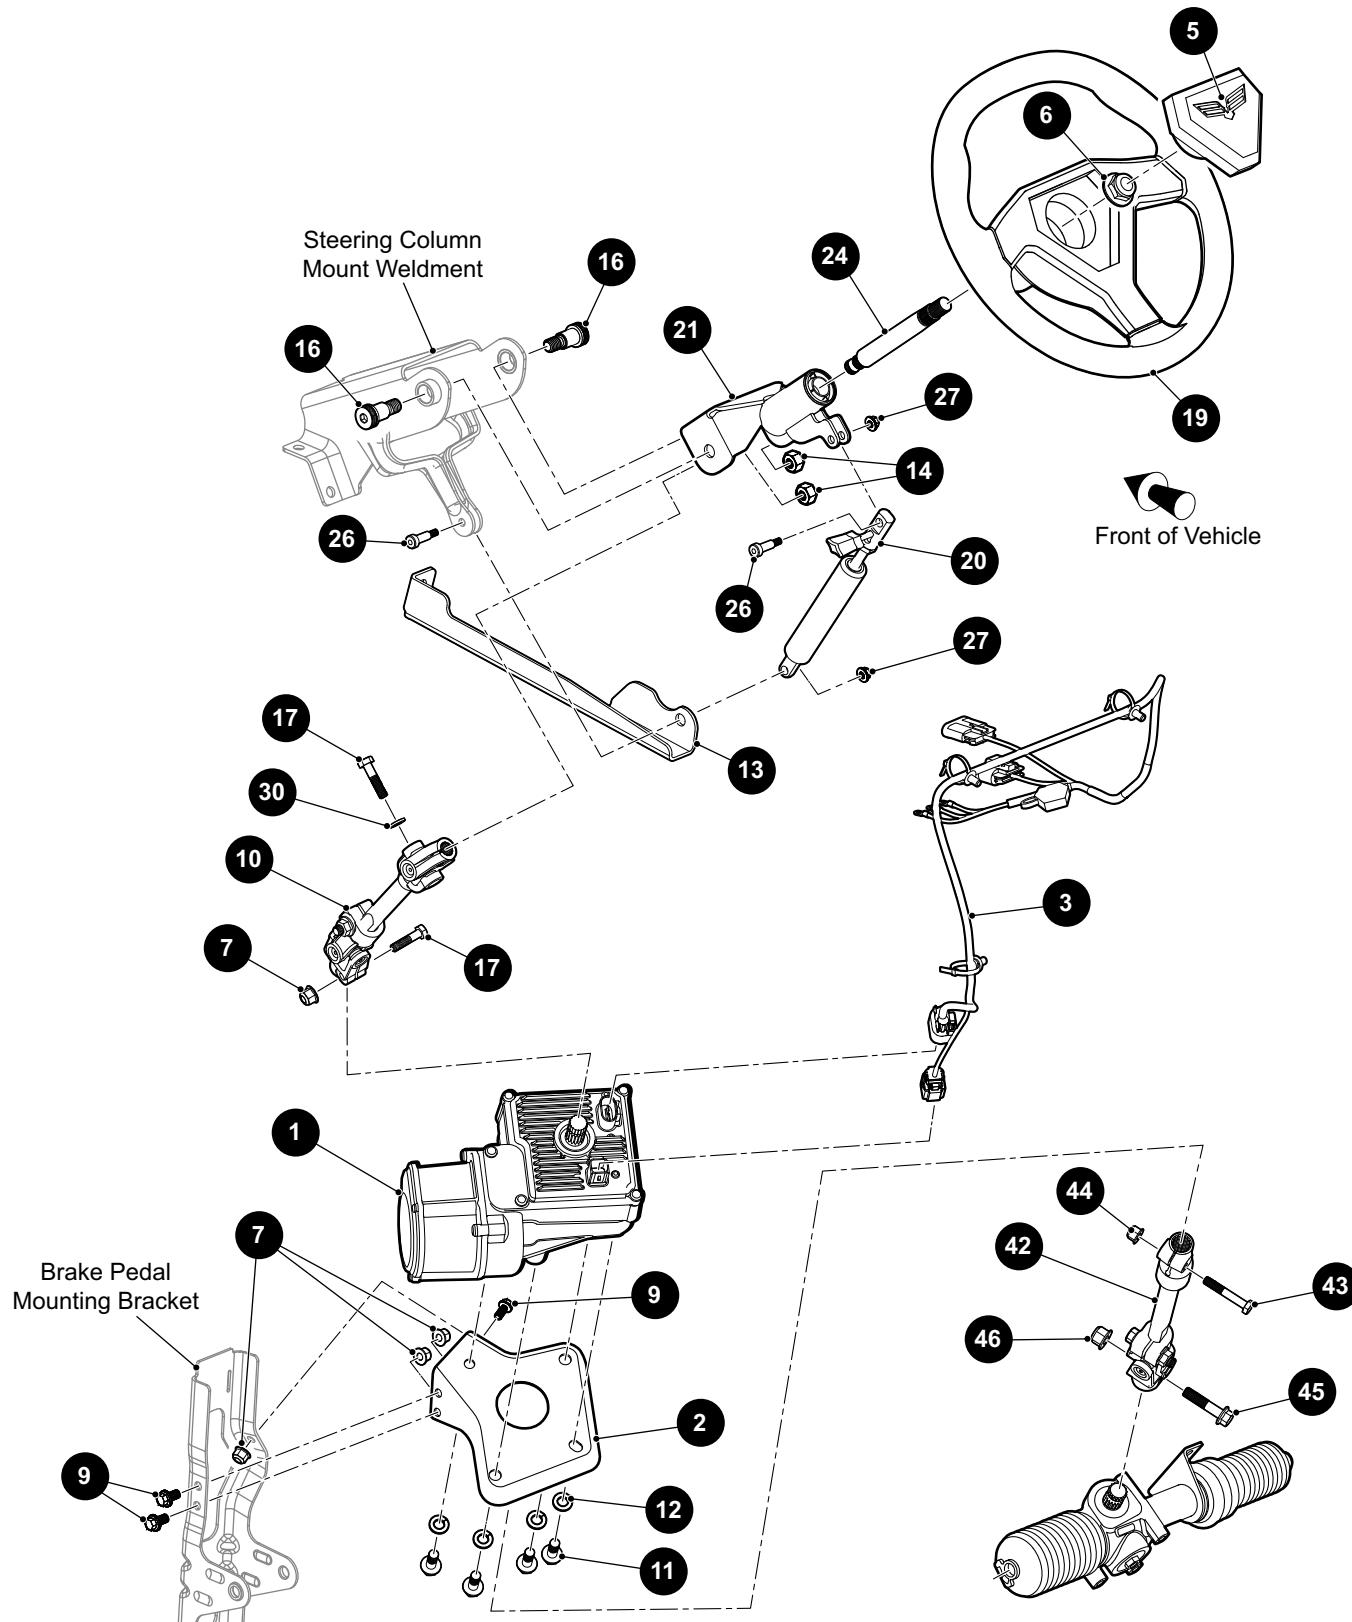
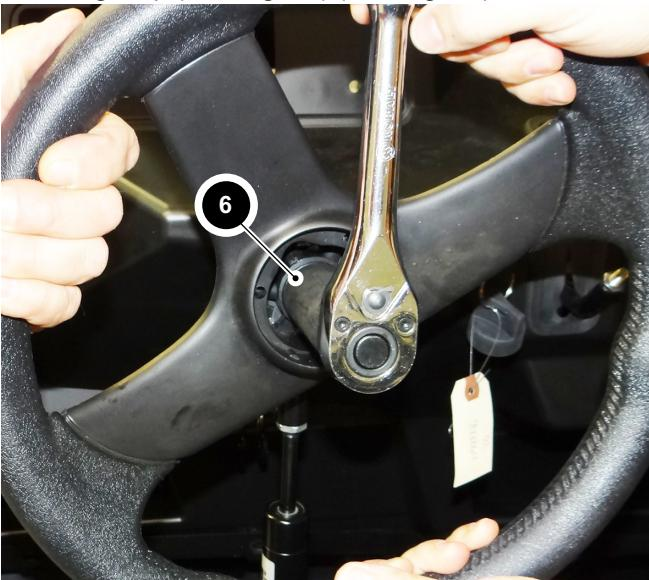

Fig. 20 Steering Components
Fig. 21 Steering Wheel Nut Removal
4. Remove the vent line (Ref. Fig. 20). Disconnect the differential power connection.
5. Remove the bolt (1) and nut (2) that secure the prop shaft to the differential.
6. Remove four bolts (3) that secure the front differential to the frame. Carefully slide the differential off of the prop-shaft splines and remove from the vehicle.
1. Remove the steering wheel cover (5) by pulling it straight up (See Fig. 20) (See Fig. 21).
2. Remove the bolt (17) and washer (30) that secure the steering shaft (10) to the steering wheel shaft (24) (Ref. Fig. 21)(Ref. Fig. 26).